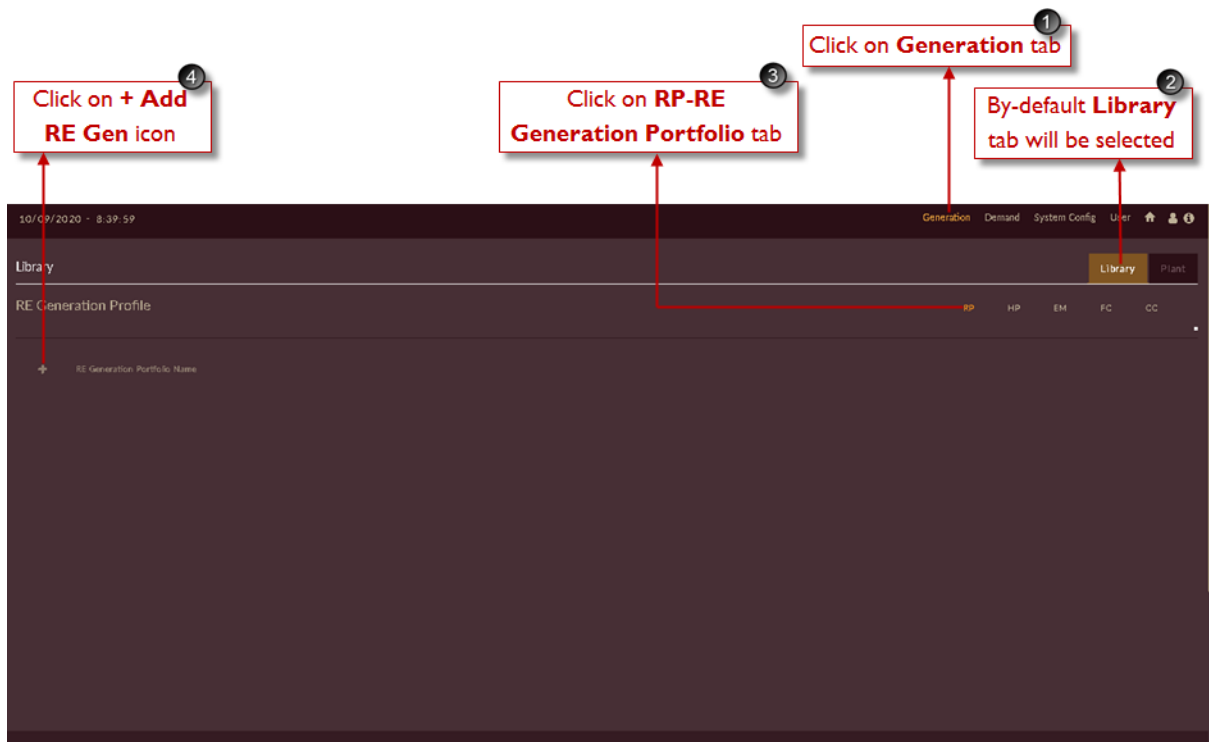

Figure 175. Steps to add RE Generation Portfolio
1. Click on **Generation** tab. The **Generation** tab appears as shown in Figure 175.